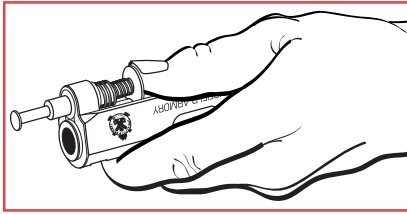

Figure 58-1
4. With the bottom of the slide facing up, press the guide rod head forward until enough of the rod is exposed and firmly snap the takedown piece over the rod. (See fig. 58-1 and 2)